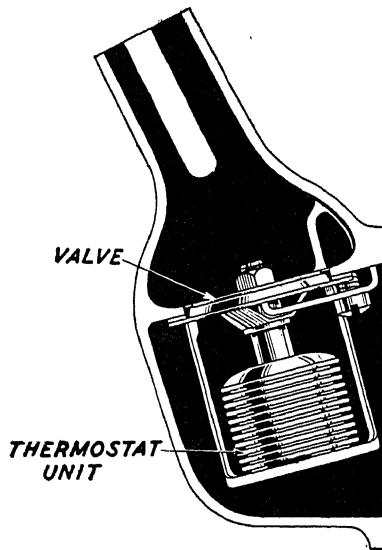

Fig. 5. Cooling System Thermostatically Controlled Valve for Circulation Control
**Thermostats.** Use of thermostat, Fig. 5, within the cooling system is of long standing. Each season has seen the adoption of it as standard equipment by an increasing number of manufacturers.